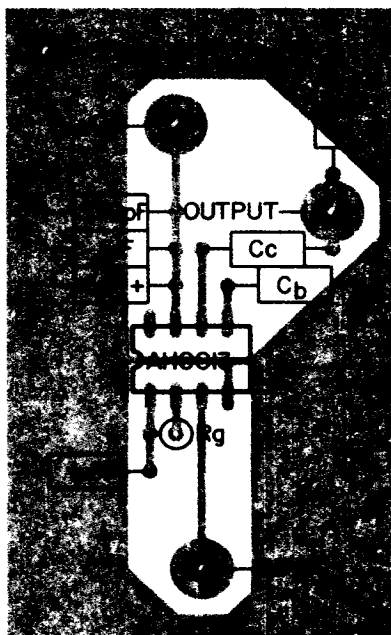

FIGURE 8: TYPICAL BOARD LAYOUT
1. Connect all terminals of AH0013 as it is indicated in Fig. 8.